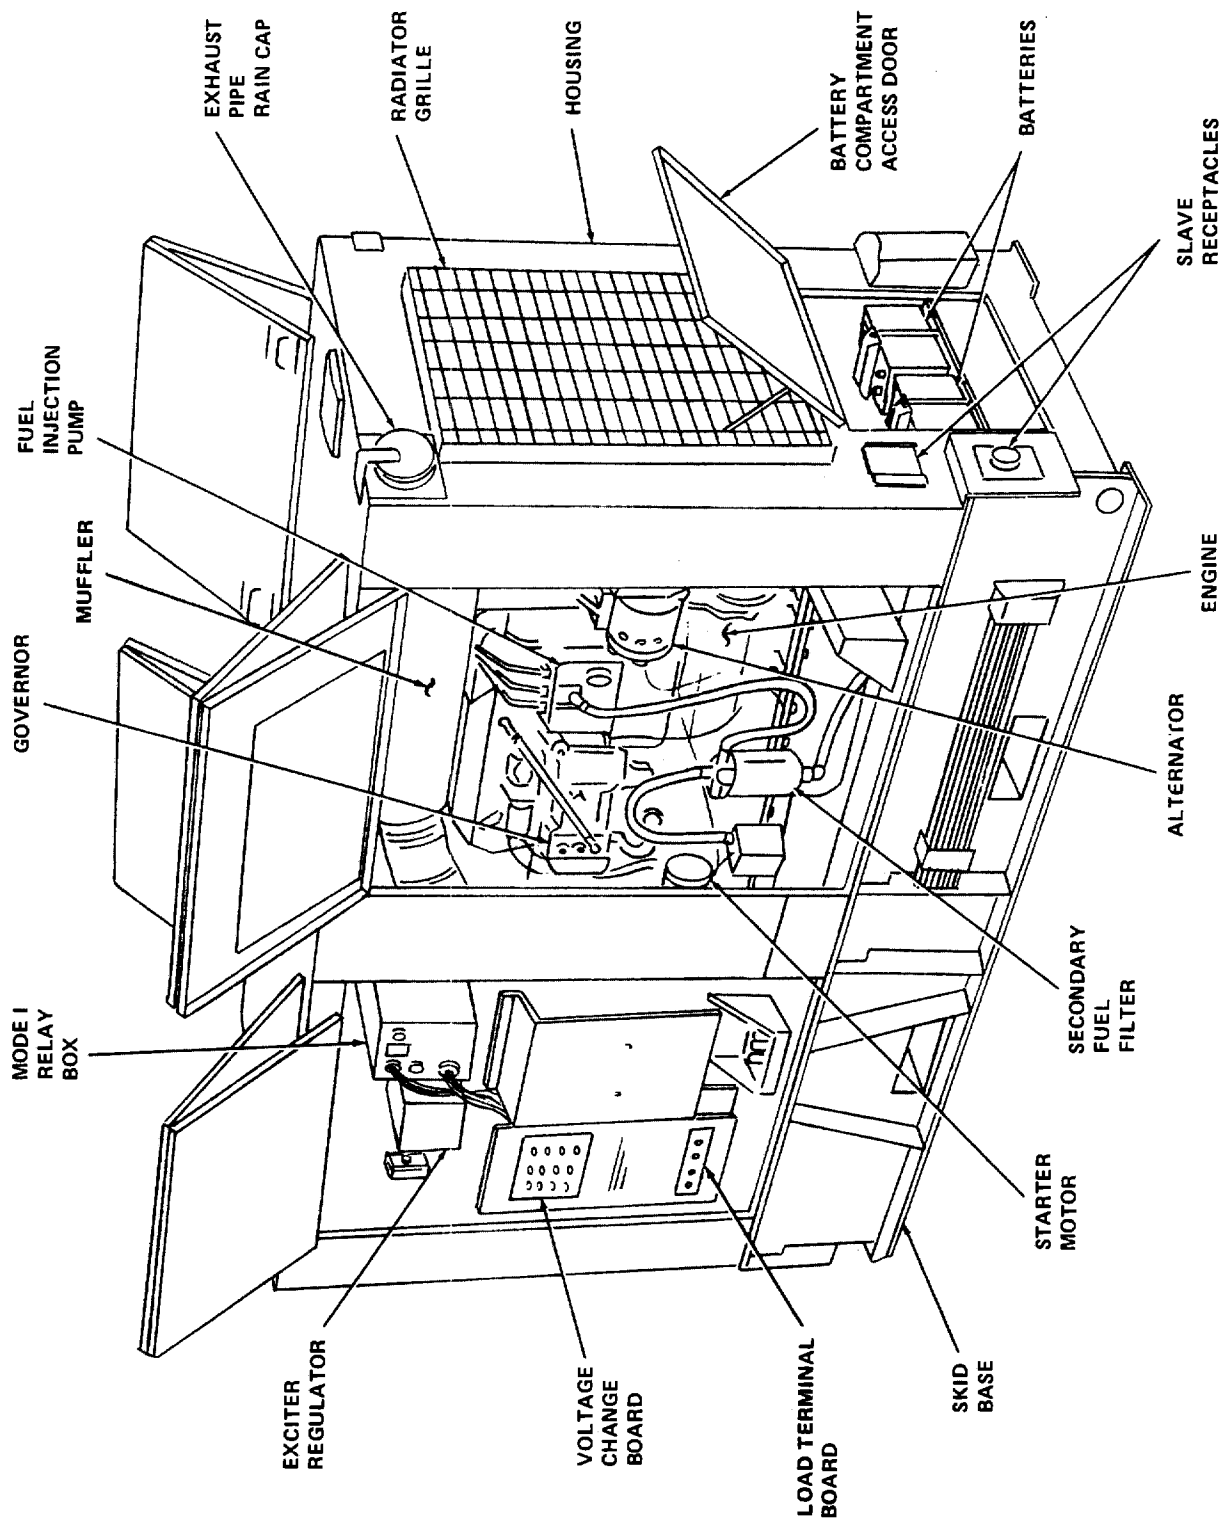

Figure 1-1. Generator Set, Right Front, Three Quarter View
a. The generator set, military model MEPO07B (figures 1-1 and 1-2) is a self-contained source of ac electrical power. A 100 KW synchronous, brushless generator is directly driven by a turbocharged, six-cylinder diesel engine. Both the engine and generator are mounted on a welded I-beam skid base and contained within a steel-paneled housing enclosure. The generator set is provided with the controls, instruments, and accessories necessary for its operation, monitoring, and control.